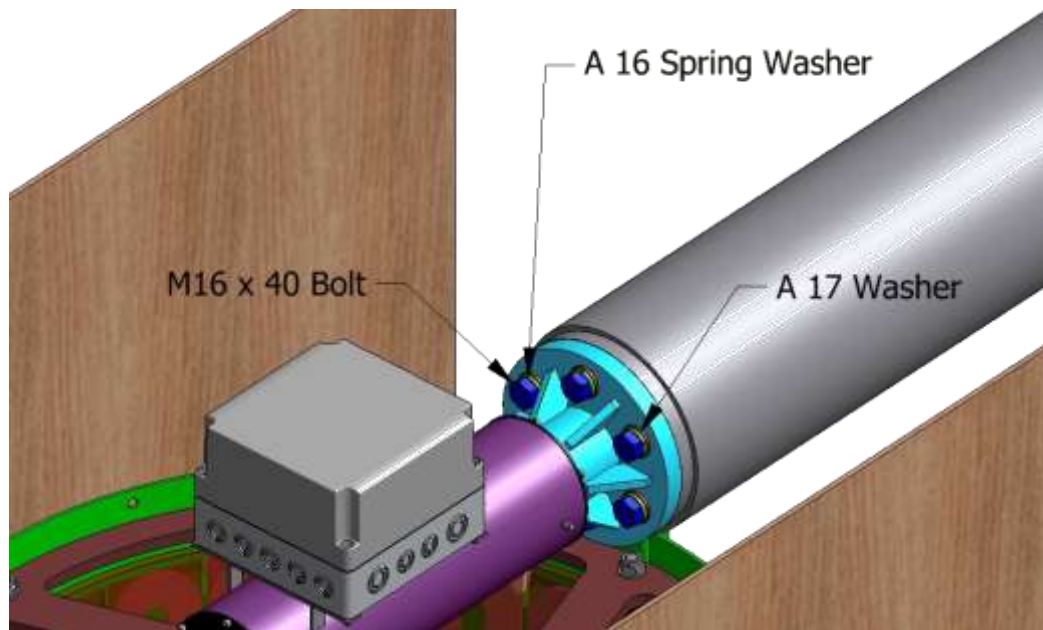

Figure 16 – Fixing the generator
5. Fit six M16 x 40 bolts with a spring washer and then a regular washer and place the bolts to join the yaw system flange to tower 2nd segment top (see Figure 16). Use WD-40 oil to lubricate the bolts before placing them into the threaded holes. Fix the bolts cross wise with a torque of 222 Nm, going first 50% and then 100%.